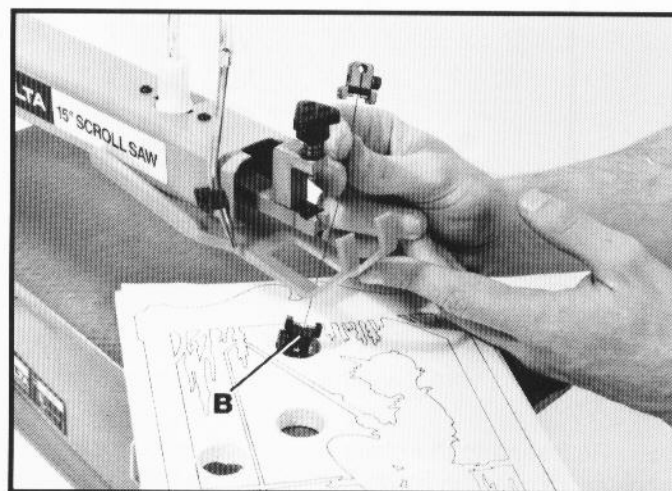

Fig. 33
5. Place the workpiece on the table with one of the drilled holes over the opening in the saw table. Insert the lower blade holder (B) Fig. 33, down through the hole in the workpiece and through the opening in the table as shown. **NOTE:** Blade teeth must be pointing down. Assemble the lower blade holder into the clip in the lower rocker arm.